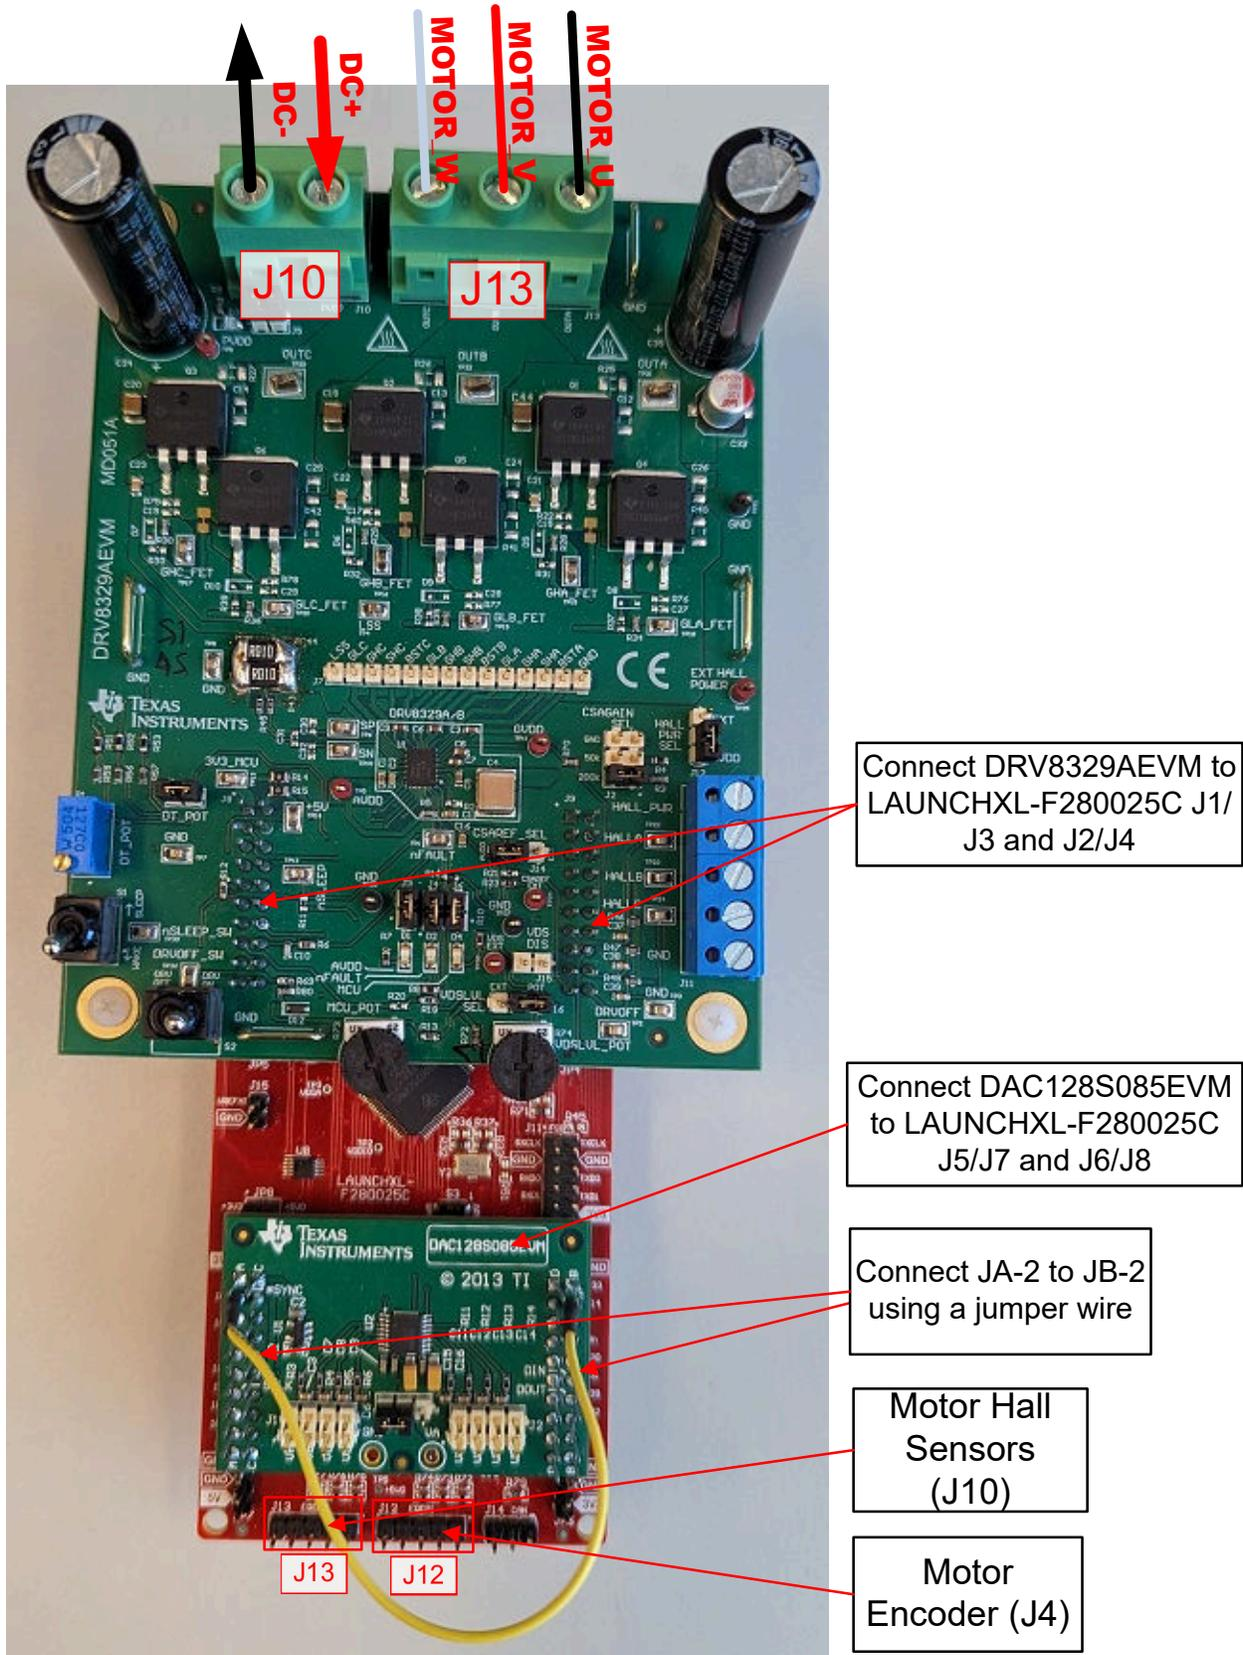

Figure 3-8. LAUNCHXL-F280025C Connected to the DRV8329AEVM and DAC128S085EVM
- Make sure that the following items are completed as described below, and then connect the DRV8329AEVM to site 1 (J1/J3 and J4/J2) of the LAUNCHXL-F280025C, LAUNCHXL-F280039C, or LAUNCHXL-F2800137 as shown in Figure 3-8.
- Connect the motor, encoder, and Hall sensors to the DRV8329AEVM and the LAUNCHXL-F280025C, LAUNCHXL-F280039C, or LAUNCHXL-F2800137 as described in Table 3-2 and shown in Figure 3-8.